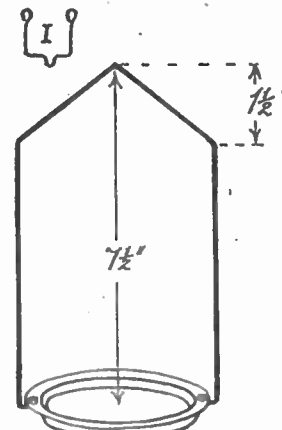

Fig. 6—Details of the pans
For greater realism, we will build up the bits and fife rails situated before the masts in ship fashion, using stripwood and halving the joints as in Fig. 6.
The pans (Fig. 6) are made from tin press lids of $3\frac{1}{2}$ ins. diameter. The suspending wire, bent to the shape shown, should be of stout copper or brass, the lower ends of which are beaten flat, drilled, bent at right-angles and bolted to the pan edges. The stirrup (I) measures 1 in. by 1 in. and is also made from stout copper or brass wire.